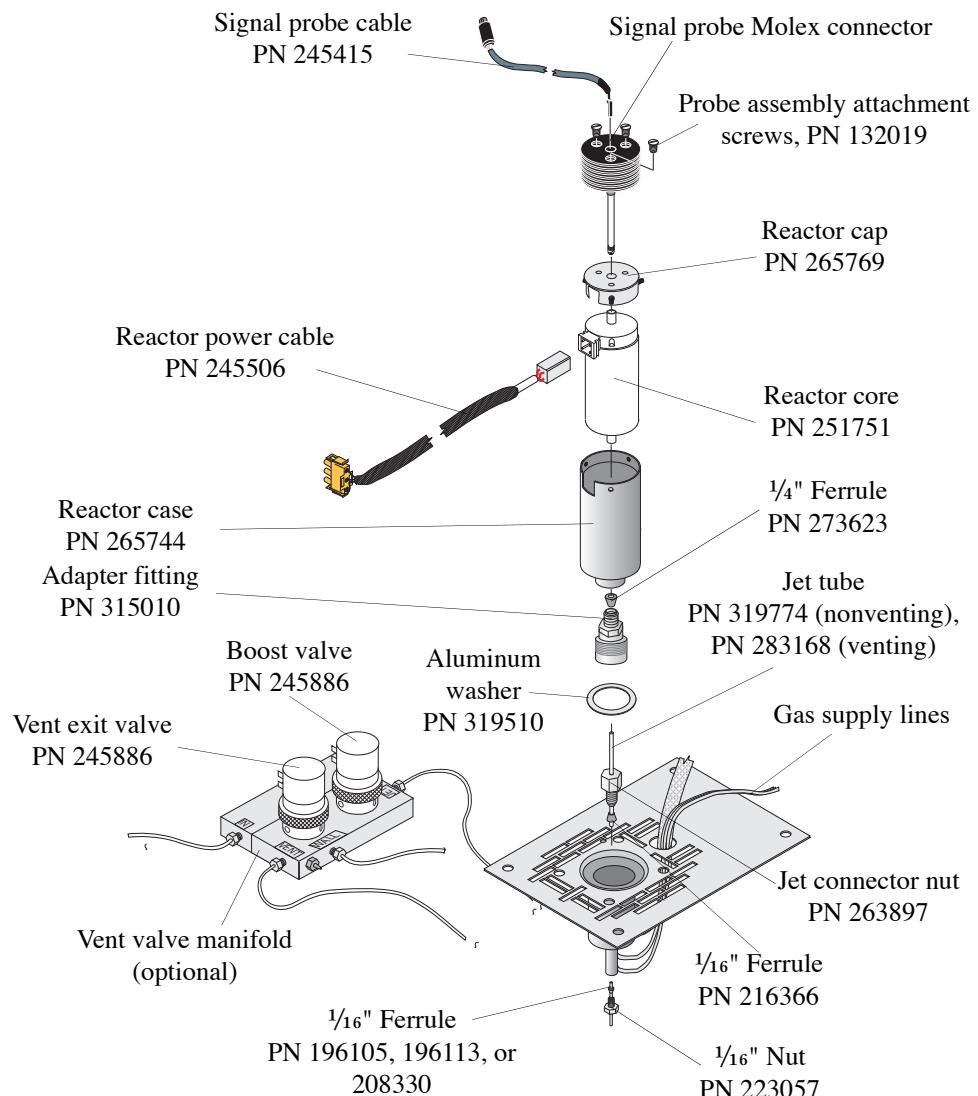

Figure 5.1. Model 5360A Detector Assembly with venting option
5. Disconnect the four-pin connector of the reactor power cable from the reactor core (refer to Figure 5.1).
7. Using needle-nosed pliers, place the new $\frac{1}{16}$ " jet tube (PN 319774 or PN 283168 (venting option)) into the reactor base. Slide a $\frac{1}{16}$ " graphite-Vespel® ferrule (PN 216366) over the jet tube with the flat side down (refer to Figure 5.1). Slide the jet connector nut (PN 263897) over the jet tube. Gently tighten the jet connector nut using the $\frac{5}{16}$ " socket wrench. Do not overtighten.